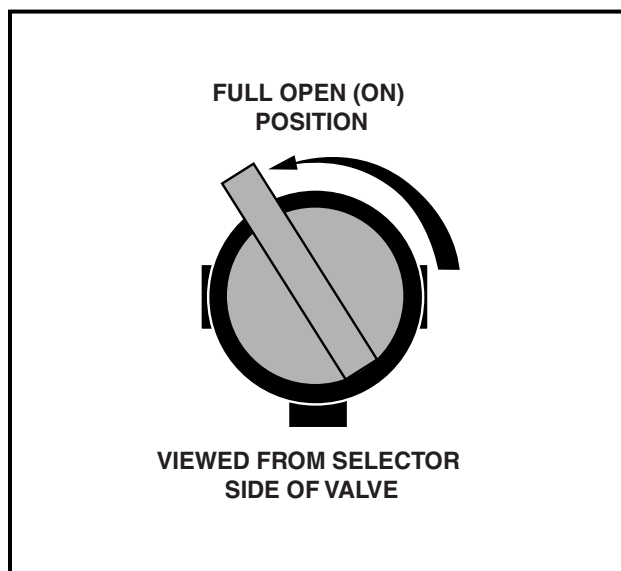
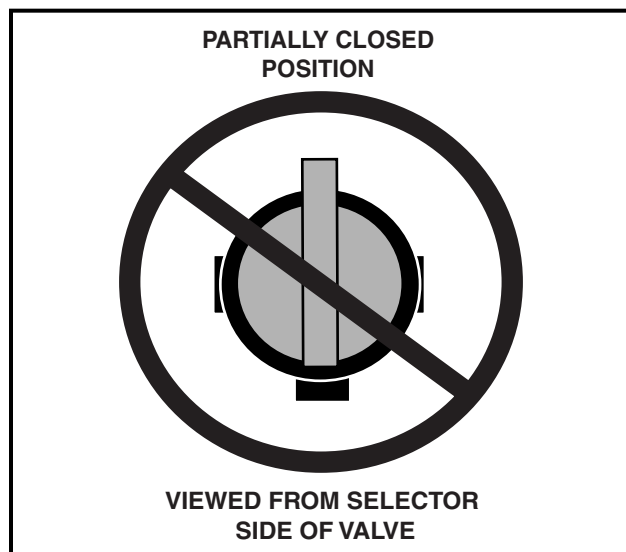

Figure 11 Fuel Shut-off Valve – Open Position
Figure 12 Incorrect Fuel Shut-off Valve Setting
3. Completely open the fuel shut-off valve (**Figure 11, Page 21**). Make sure the valve is fully open. A partially closed fuel shut-off valve (**Figure 12, Page 22**) combined with the use of the choke can result in a fouled spark plug and engine failure.